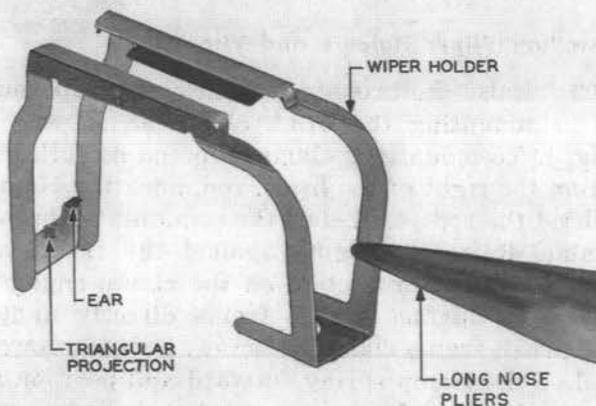
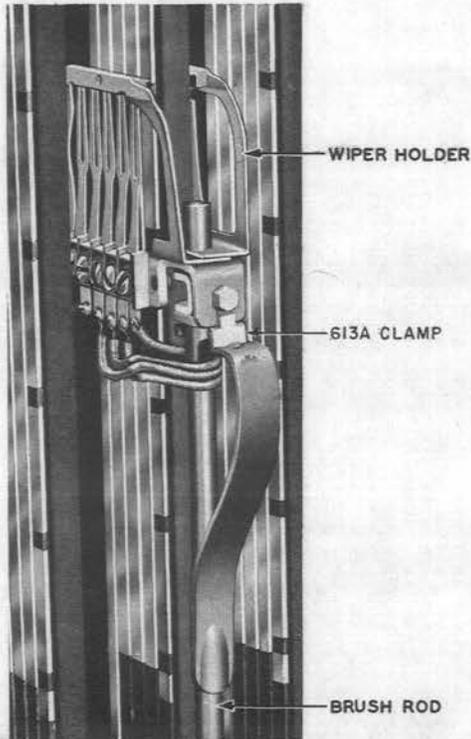

Fig. 2 - Grasping Wiper Holder With Long-Nose Pliers
Fig. 3 - Wiper Holder in Place on Commutator Brush Frame
3.06 Grasp one of the legs at the split end of the wiper holder with the long-nose pliers as shown in Fig. 2. Insert the holder at one side of the commutator around which it is to be placed, so that the split end of the holder is at the rear of this commutator. Then, using the KS-6320 orange stick, spread the legs of the holder just enough to place the holder around the commutator. Draw the holder forward and lower it so that the rear of the holder rests on the brush frame or rear guide when provided, and the front of the holder rests on the top of the brush rod.
3.07 Brush Frames Not Equipped With Rear Guides: Place the left leg of the wiper holder over the brush rod first, and then the right leg as shown in Fig. 3. With the legs positioned on the rod, place a finger at the top of each side of the holder toward the rear. Press down equally on both sides until the triangular projection (see Fig. 2) on the inside of the holder slips over the rear of the brush frame and snaps in place underneath the frame. In this position, the ears on the inside of the holder should rest on the top surface of the brush frame. Using the 376A dental mirror, check that the rear of the holder is positioned as just described. Then proceed as in 3.09.
3.08 Brush Frames Equipped With Rear Guides: With the wiper holder resting on the rear guide and rod as described in 3.06, hold the feet of the front legs of the wiper holder against the front edge of the commutator. Place a finger at the top of each side of the holder toward the rear and press down equally on both sides until the triangular projection (see Fig. 2) and the two ears on the inside of the holder slip over the tab of the rear guide. Then proceed as in 3.07. Using the dental mirror, make sure that the triangular projection on the holder engages the undersurface of the commutator brush frame through the slot in the rear guide.